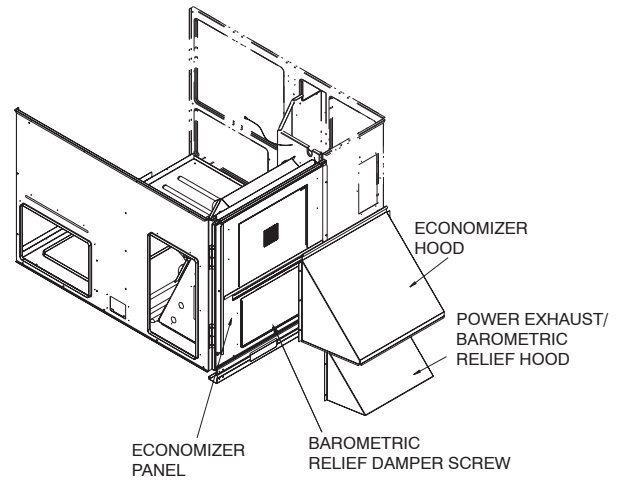

Fig. 19 - Hood Installation
3. The barometric relief damper is secured to the economizer panel for shipping. Remove the screw holding the barometric relief damper to the panel. Damper should be free to swing open during operation. (See Fig. 19.)
4. Hang the barometric relief/power exhaust hood on the mounting flange on the economizer panel. Secure hood to panel with screws saved from Step 2. (See Fig. 19 and 20.)
5. Align hole in flange of economizer panel with left edge of hood. Hang economizer hood on the top flange of the economizer panel by rotating hood until top flange of the economizer hood engages the bent flange on the economizer panel. Rotate hood until hood is flush with the economizer panel. Hood will support itself from flange. Align holes in hood with holes in panel and secure hood to panel with screws saved from Step 2. (See Fig. 19 and 21.)